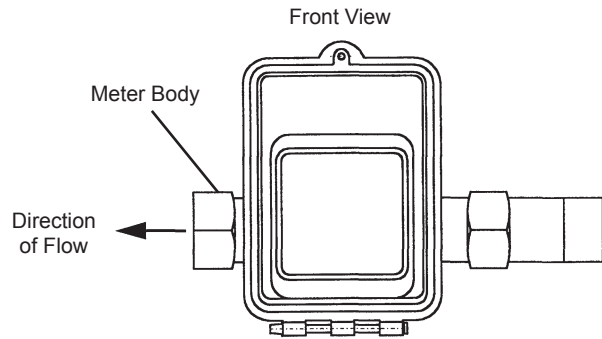
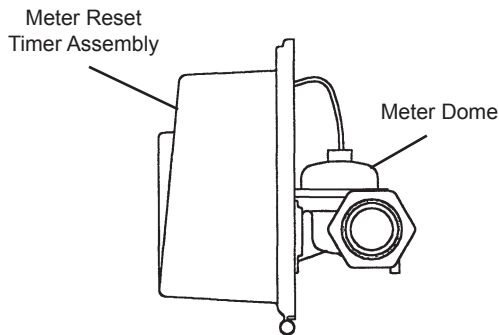

Figure 2
Figure 3
1. All plumbing shall be done in accordance with local plumbing codes. The meters are to be installed on soft water outlets. Twin units with (1) one meter shall be installed on the common soft water outlet of the units.
4. Meter bodies must be installed the horizontal position with the reset timer assemblies in the vertical position. See Figure 2 and Figure 3.